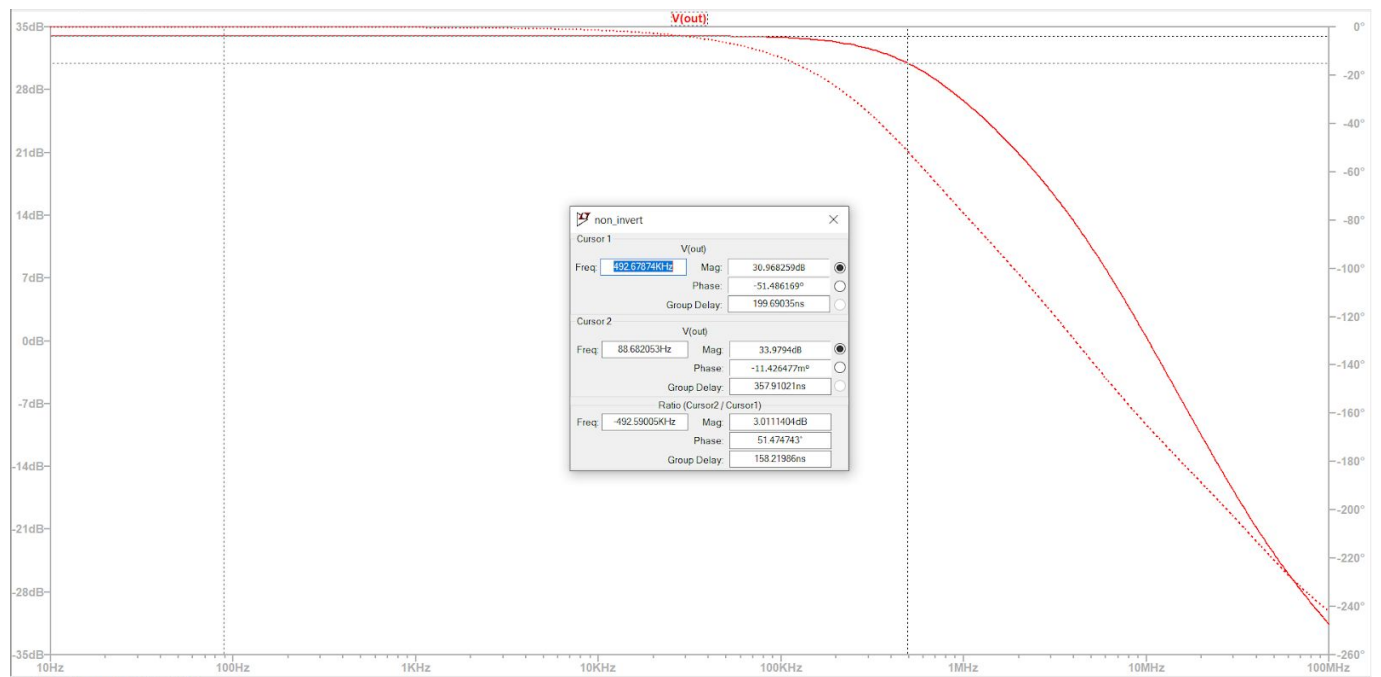

**Fig.12:frequency response of Non-inverting configuration with  $R_2=9\text{ k}$  and  $R_1=1\text{K}$
10. Gain bandwidth product of the operational amplifier will be constant which can be seen from the fig.12 and Fig.14 from fig.12 to fig.14 we increased the gain by 5 times, The bandwidth got changed from 2.443 MHz to 492.678 KHz which is almost dropped by 5 times.i.e., Gain bandwidth remains constant.